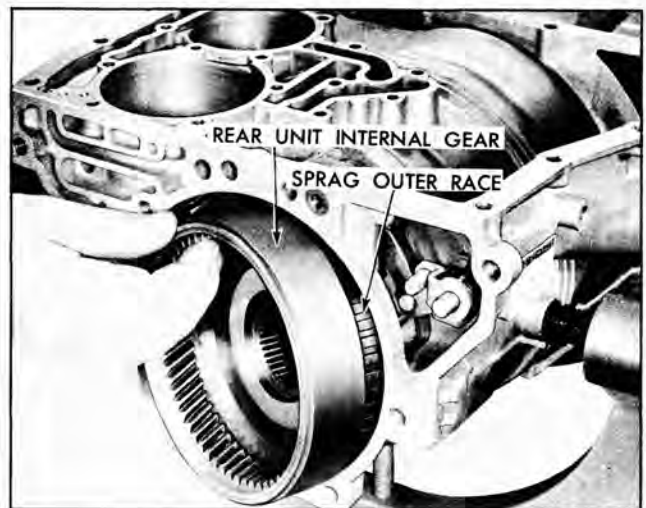

Fig. 60 Removing Rear Internal Gear
15. Remove the rear unit internal gear and sprag assembly including retainer. Make certain parking pawl is disengaged (Fig. 60). There is no rear internal gear to front sun gear shaft snap ring.